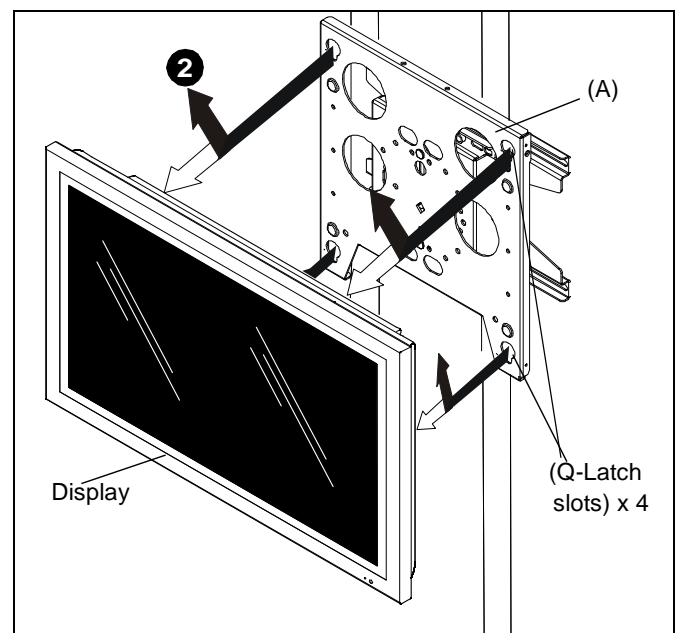

Figure 13
2. Using two people, slide display up and out of TPP (A). (See Figure 13)